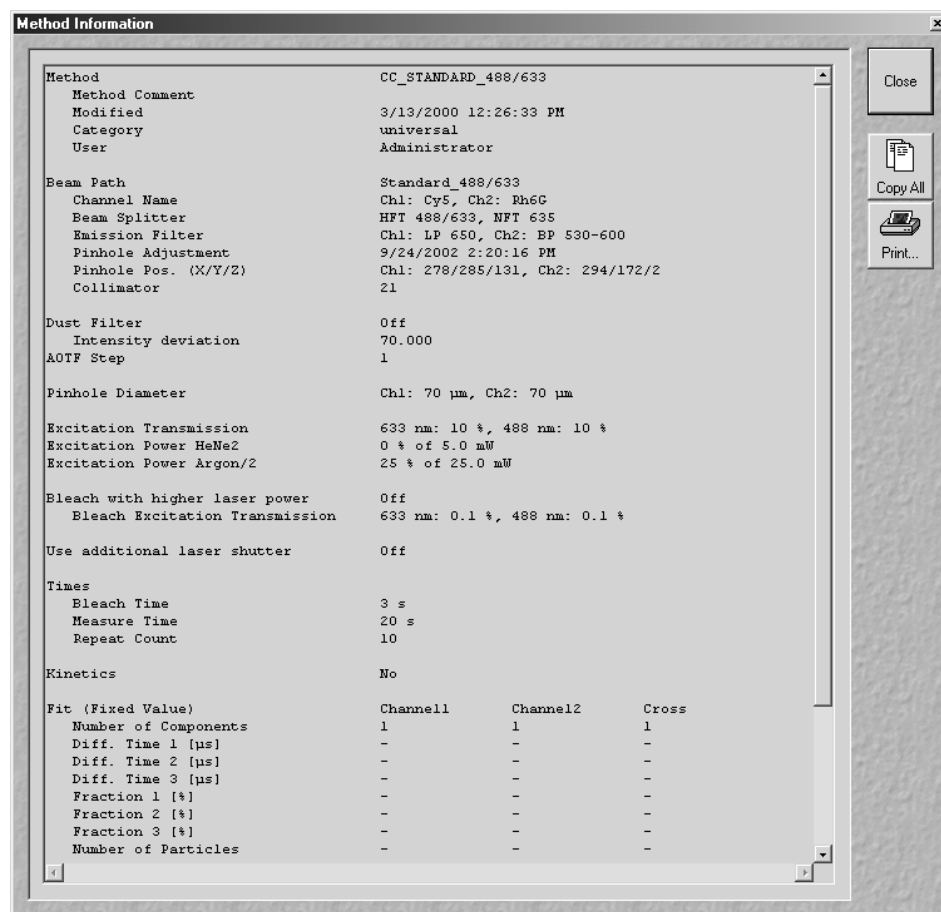

Fig. 3-30 Detailed description of the analysis method
- After a click on the **Info** button, a window will pop up which shows a detailed description of the analysis method (Fig. 3-30).